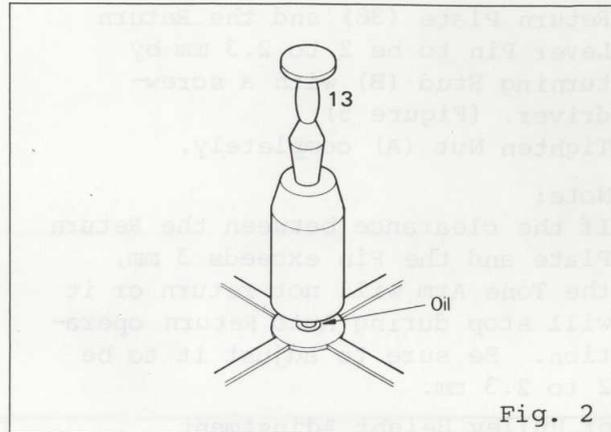

Fig. 2
3. Apply 2 or 3 drops of high-grade oil to the bearing (under the Pulley). (Figure 2)